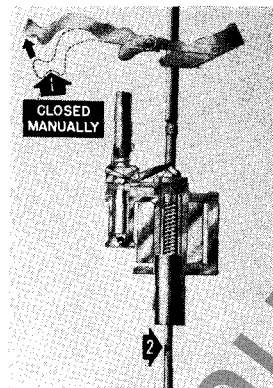

Figure 1
**Figure 1**—An upward push of the operating handle 1 sets the simple toggle mechanism, and permits the contacts 2 to close. Assuming that the recloser has been set for one instantaneous and three time-delay operations, action will be as follows in case of a short circuit, or an overload exceeding twice the recloser rating.